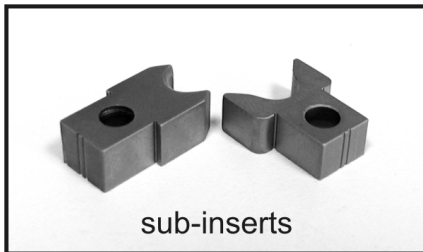

Fig.2.
- ❑ Store sub-inserts (Fig. 2.) adequately when separated from the tool. Keep them dry and clean.